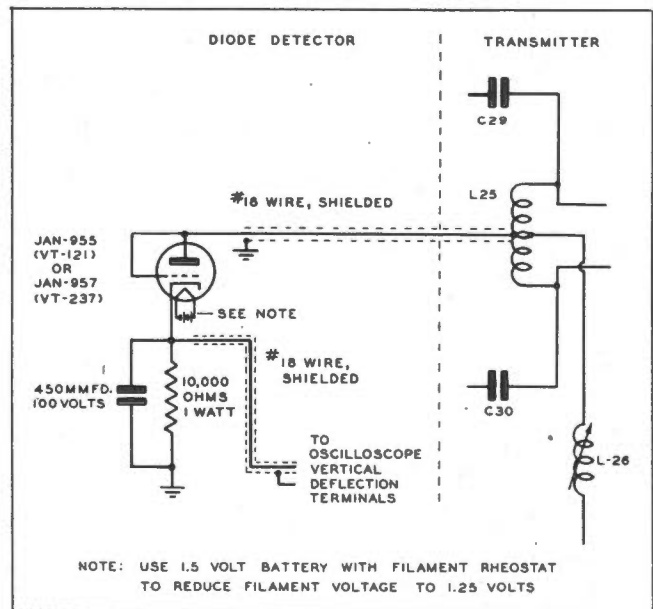
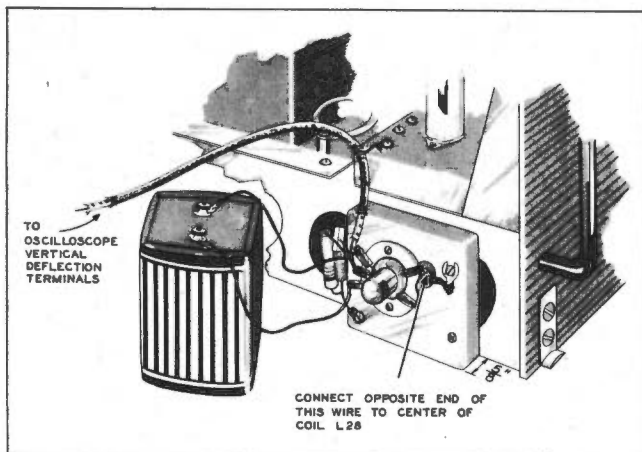

Figure 5-3. Schematic Diagram of Diode-Detector Unit Used when Tuning Pre-amplifier Coils
Figure 5-4. Construction and Placement of Diode-Detector Unit Used when Tuning Pre-amplifier Coils
(3) Construct a diode-detector unit according to the schematic diagram in figure 5-3 and the sketch in figure 5-4. Mount the unit temporarily on the side of the transmitter chassis as shown in figure 5-4. Be sure to make good electrical contact between the detector base and the transmitter chassis. Connect the plate of the detector tube to the center tap of the transmitter oscillator plate coil L25 using the center conductor of the shielded lead. Connect the cathode of the detector tube to the oscilloscope vertical deflection terminal with the shield cable.